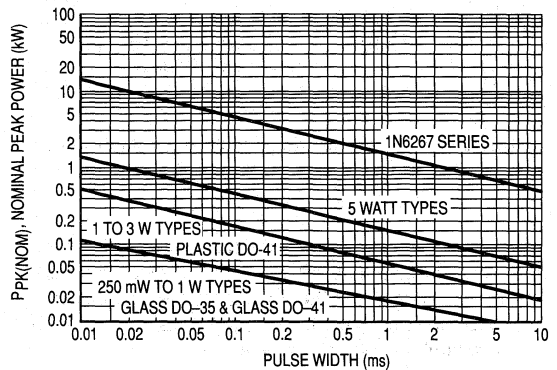
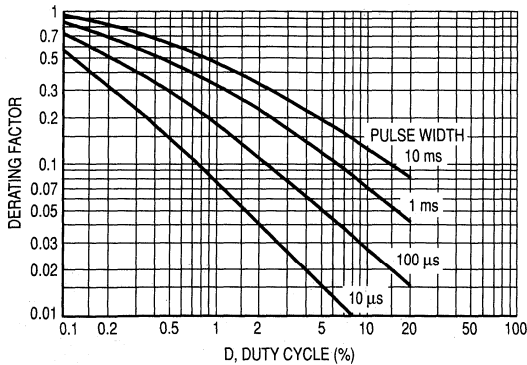

Figure 1. Peak Power Ratings of Zener Diodes
Figure 2. Typical Derating Factor for Duty Cycle
Some Motorola data sheets such as the ones for devices shown in Table 1 contain short pulse surge capability. However, there are many data sheets that do not contain this data and Figure 1 is presented here to supplement this information.
Some data sheets have surge information which differs slightly from the data shown in Figure 1. A variety of reasons exist for this:
3. Larger dice are used, or special tests are imposed on the product to guarantee higher ratings than those shown on Figure 1.
The data of Figure 1 applies for non-repetitive conditions and at a lead temperature of 25°C. If the duty cycle increases, the peak power must be reduced as indicated by the curves of Figure 2. Average power must be derated as the lead or ambient temperature rises above 25°C. The average power derating curve normally given on data sheets may be normalized and used for this purpose.
At first glance the derating curves of Figure 2 appear to be in error as the 10 ms pulse has a higher derating factor than the 10 μs pulse. However, when the derating factor for a given pulse of Figure 2 is multiplied by the peak power value of Figure 1 for the same pulse, the results follow the expected trend.